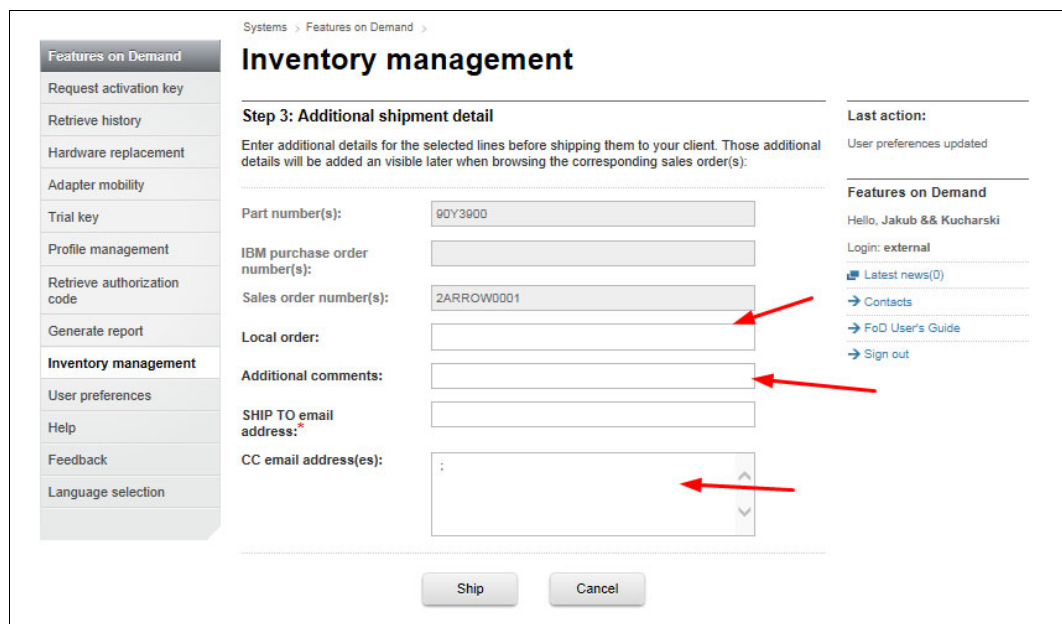

Figure 2-8 More order details
6. Click **Ship**. (More order details are shown in Figure 2-8.)